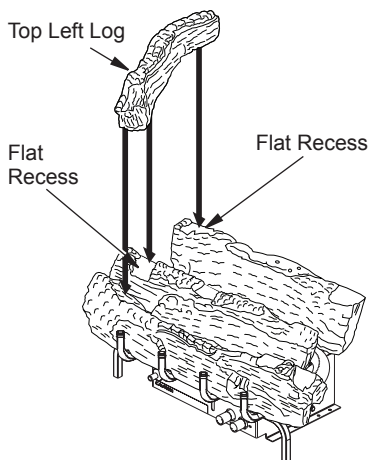

Figure 19 - Installing Top Left, Log
4. Place left top log as shown in Figure 19. This log will fit on the matching flat recess on the middle and rear logs.